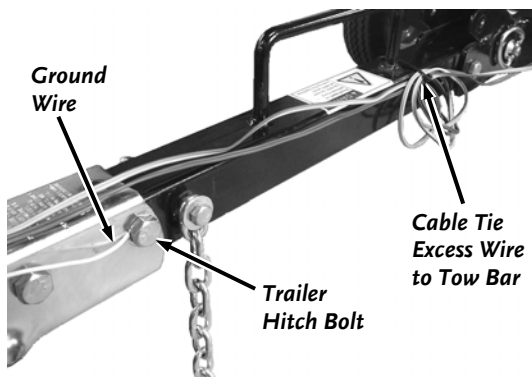

Figure 68
11. Loosen a Trailer Hitch Bolt, wrap the White (Ground) Wire around the Bolt, and then re-tighten with two 3/4" wrenches (**Figure 68**).